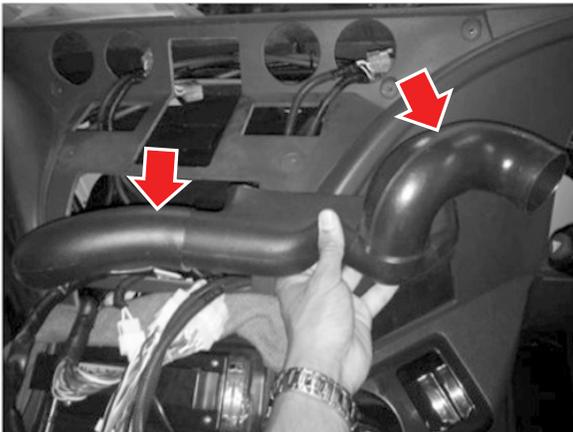

Figure 23-2
2. Pre-install the center ducts (A6000080-001 and A6000081-001) for greater ease of installation (see Figure 23-2).